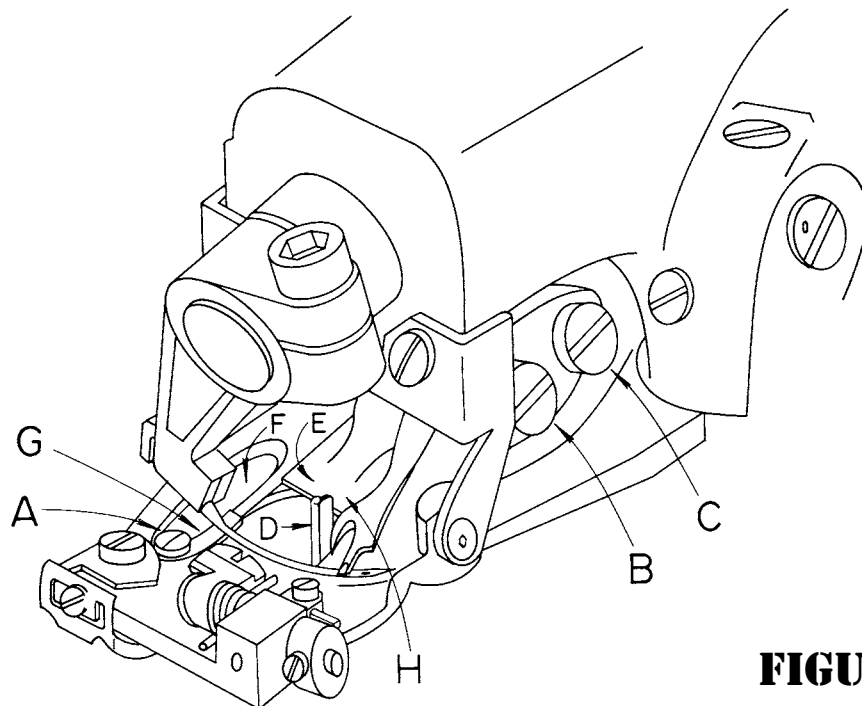
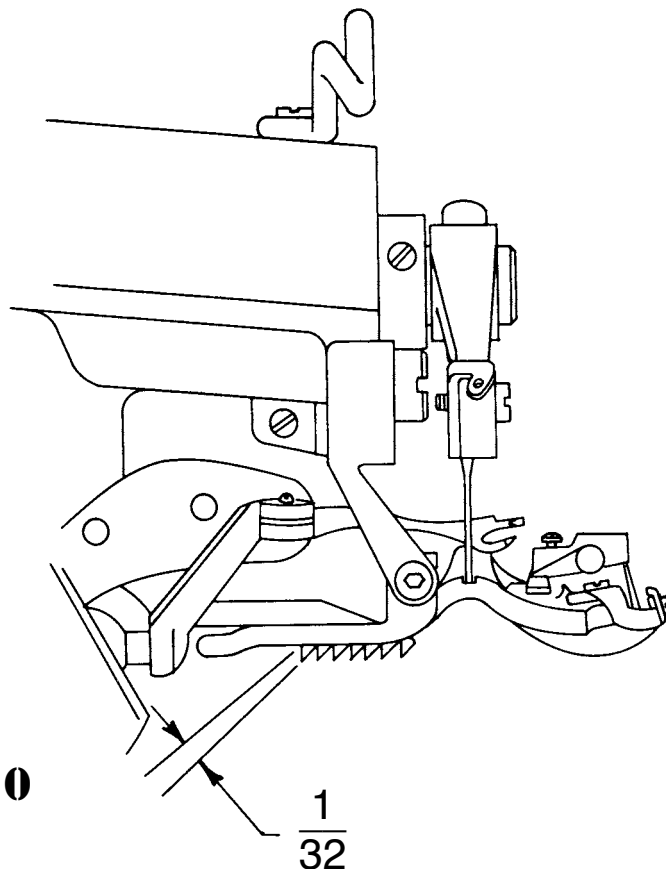

FIGURE 9
FIGURE 10
9. After all the necessary adjustments have been made, tighten all set screws and the lock nut and recheck all the adjustment points. Referring to **Figure 9**, the looper should now clear the chain-off pin (“D”), feeder (“E”), looper slot (“F”), needle, and pass over the needle in the correct position to pick up the loop.
1. After considerable service, it may be expected that the wearing action of the needle will cause a sharp edged groove to form on the needle guide (**item “G” in Figure 9**).
2. Loosen the needle guide attaching screw (**item “A” in Figure 9**) and remove the worn needle guide. Clear out any lint or dirt that may have accumulated under the old guide and insert the new guide. Insure that the new guide is seated flush with the top and side of the presser foot and then retighten the attaching screw. Slowly turn the handwheel in the direction away from the operator and check to insure that the new guide fits properly under the needle and that no interference has been introduced between the guide and the looper.
1. In the event that the machine develops difficulty by failing to properly feed the work, a worn feeder is frequently found to be the cause. After considerable service, especially with certain hard fabrics, the feeder teeth have a tendency to become dull, and the feeder should be replaced. In order to remove the old feeder, remove the front feeder attaching screw (*item "B" in Figure 9*) and loosen the rear feeder attaching screw (*item "C" in Figure 9*). The old feeder may then be slid out of place. Insert the new feeder under the rear screw and replace the front screw.
2. Before tightening the attaching screws check to see that the feeder is set to the proper depth. Referring to *Figure 10* this should be approximately $\frac{1}{32}$ " (.795mm) below and parallel to the bottom of the presserfoot for all light and medium weight fabrics. For heavy fabrics, the setting should be approximately $\frac{1}{16}$ " (1.59mm) below and parallel to the bottom of the presserfoot. These dimensions are intended as guides and may be modified as required by the specific fabrics. Once the proper depth is established, rotate the handwheel slowly in a direction away from the operator and check to insure that the feeder clears the looper (*see Figure 9, Point "H"*) and also clears both sides of the feeder slot in the presserfoot. Firmly tighten the attaching screws (*Figure 9, Items "B" & "C"*) before resuming sewing.